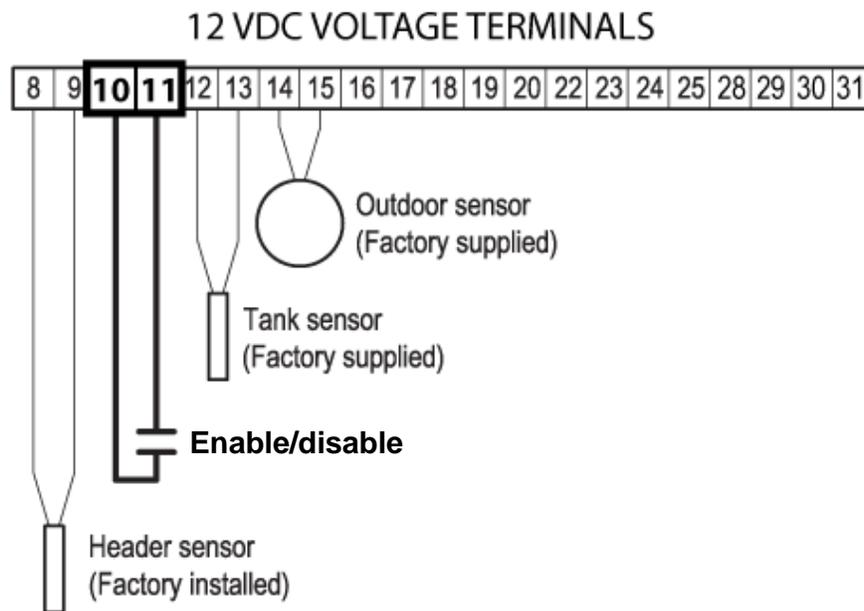

Figure 5-5: Enable/Disable Electrical Connection to Boiler (Terminals 10 and 11)
3. Open the boiler electrical junction box cover and connect the leads of the cable to the “10” and “11” terminals as shown in Figure 5-5, below.
The outdoor temperature sensor is supplied with the boiler. Install the outdoor temperature sensor on an exterior wall of the building facing NORTH or NORTH-EAST, at a height of between 4 feet and 6 feet from the ground level. On multi-story buildings, install the sensor near the upper half of the second floor. Do not install the sensor above doors, windows or ventilation outlets nor directly under balconies or gutter pipes. Do not shield the outdoor temperature sensor. Do not install the sensor on walls without overhangs, or that are not protected from rain. Connect the outdoor temperature sensor to the boiler to terminals “14” and “15” (see Figure 5-5, above).
3. Open the boiler electrical junction box cover and connect the leads of the cable to the “14” and “15” terminals as shown in Figure 5-5, above.
4. Connect the aquastat cable leads to the “10” and “11” terminals as shown in Figure 5-5.
7. Remove the header sensor connections from terminals “8” and “9” (Figure 5-5).
9. The storage tank temperature sensor must be connected to terminals “8” and “9” (See Figure 5-5). The sensor must be placed into the storage tank in a way that can detect the water temperature (Follow the storage tank manufacturer’s instructions).